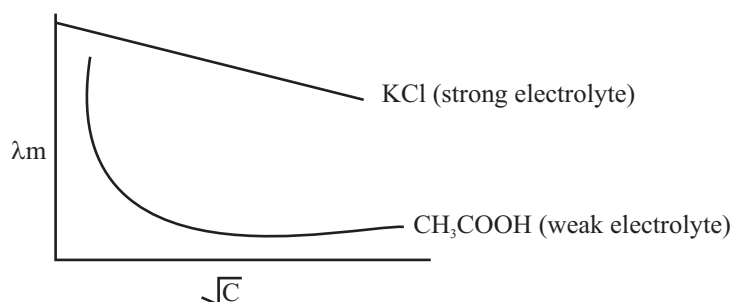

Fig. 13.3 : Variation of molar conductivity with concentration
This increase in λ_m is a resultant of two factors. On decreasing the concentration both k and M decreases. Of the two (k) tries to decrease λ_m while the other factor (M) tries to increase it. Since the decrease in M is much more, the net result is that λ_m increases. However, strong and weak electrolyte as show different type of behaviour on dilution (Fig. 13.3)
From the Fig. 13.3 we find that the increase in molar conductivity for a strong electrolyte like KCl is very gradual on dilution and also the value is high at all concentrations. Whereas for a weak electrolyte like CH_3COOH , there is a gradual increase in λ_m on dilution which is followed by a sharper increase on further dilution. These observations can be explained as : since KCl is a strong electrolyte, it is fully dissociated at all concentrations. In concentrated solution, attraction between opposite ions is large and their conducting ability is less. On dilution inter-ionic forces decrease and ions can move faster leading to the increase in molar conductivity.